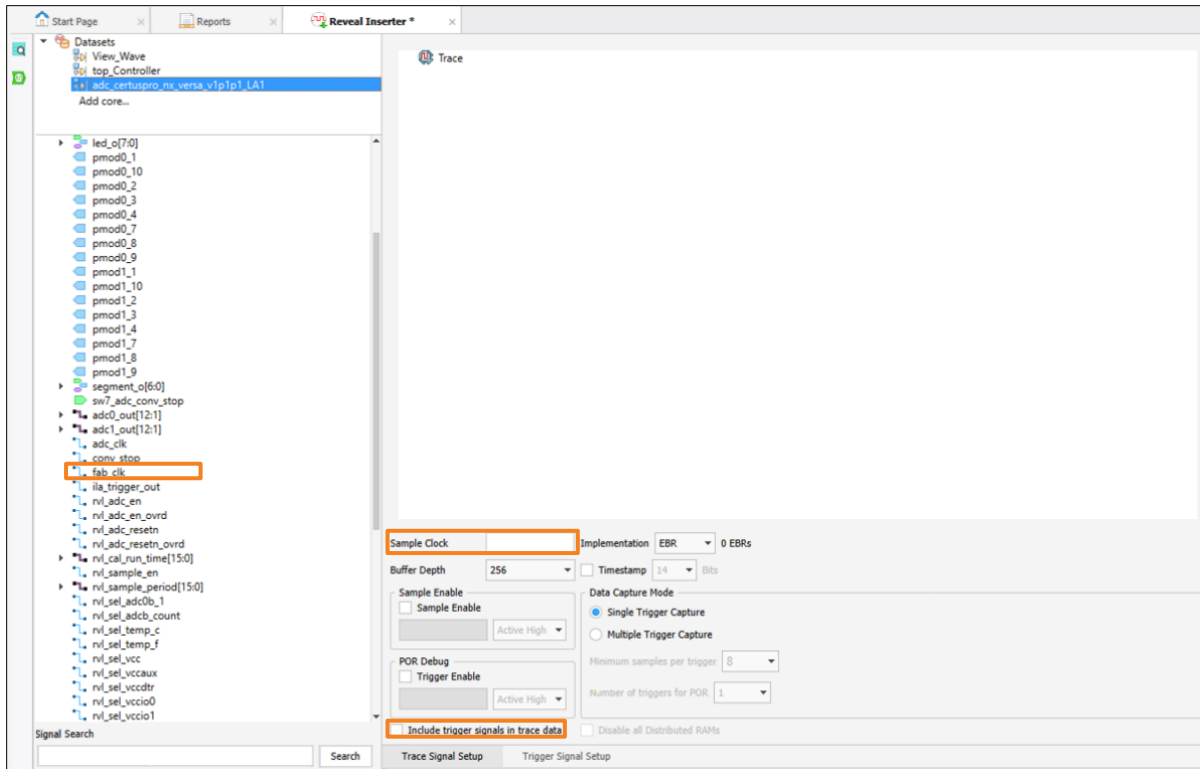

Figure 7.12. Logic Analyzer Initial View
2. After the Reveal Inserter opens, click **Add core... > Add Logic Analyzer** to add a new logic analyzer (Figure 7.12).